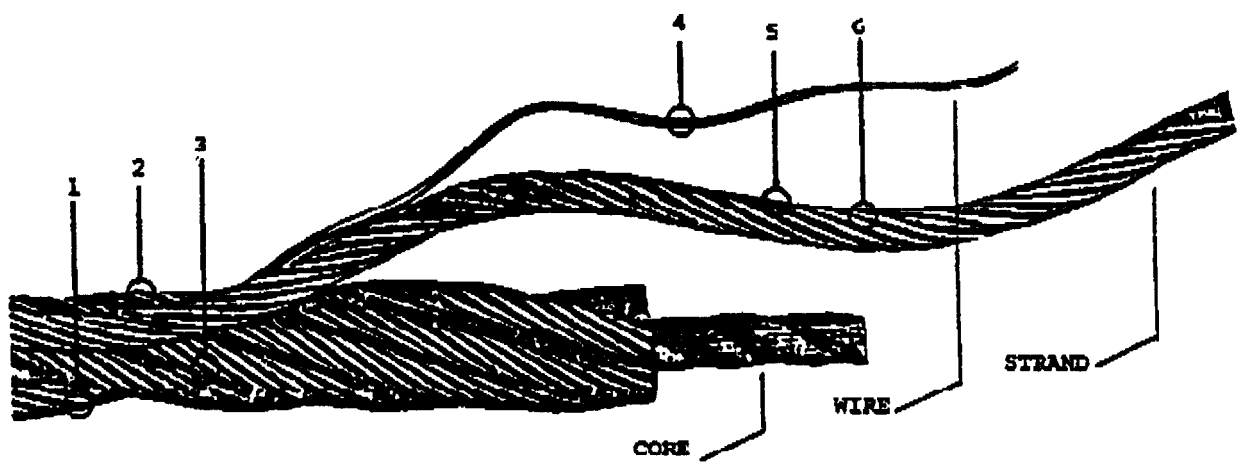

Fig. 3
- If 2 broken wires in a strand are found while the cable is still on the aerial device a new cable is to be ordered and scheduled for installation during the next 'A' or 'B' inspection (refer to Fig. 3 for definition of wire-rope and leveling cable construction).